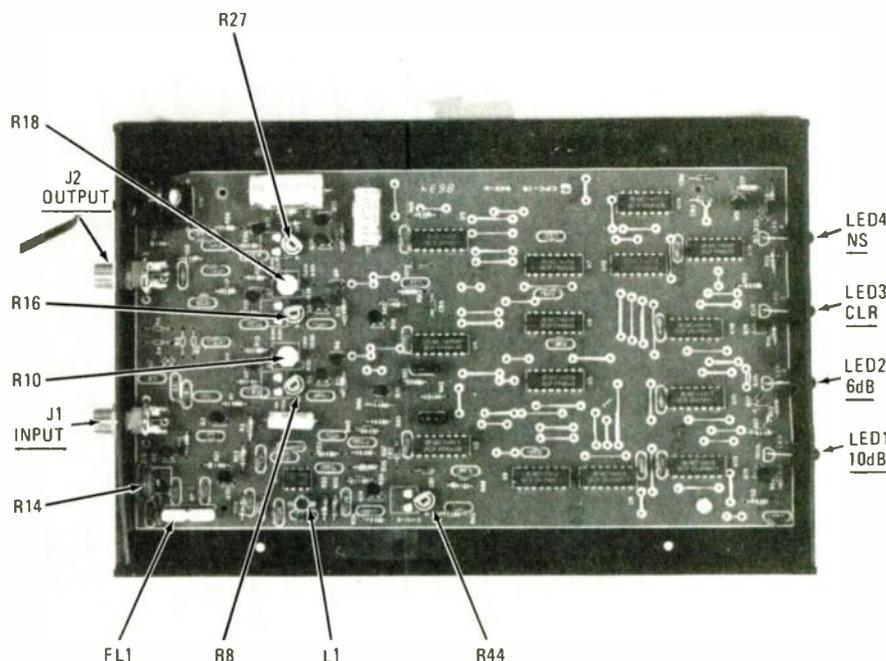
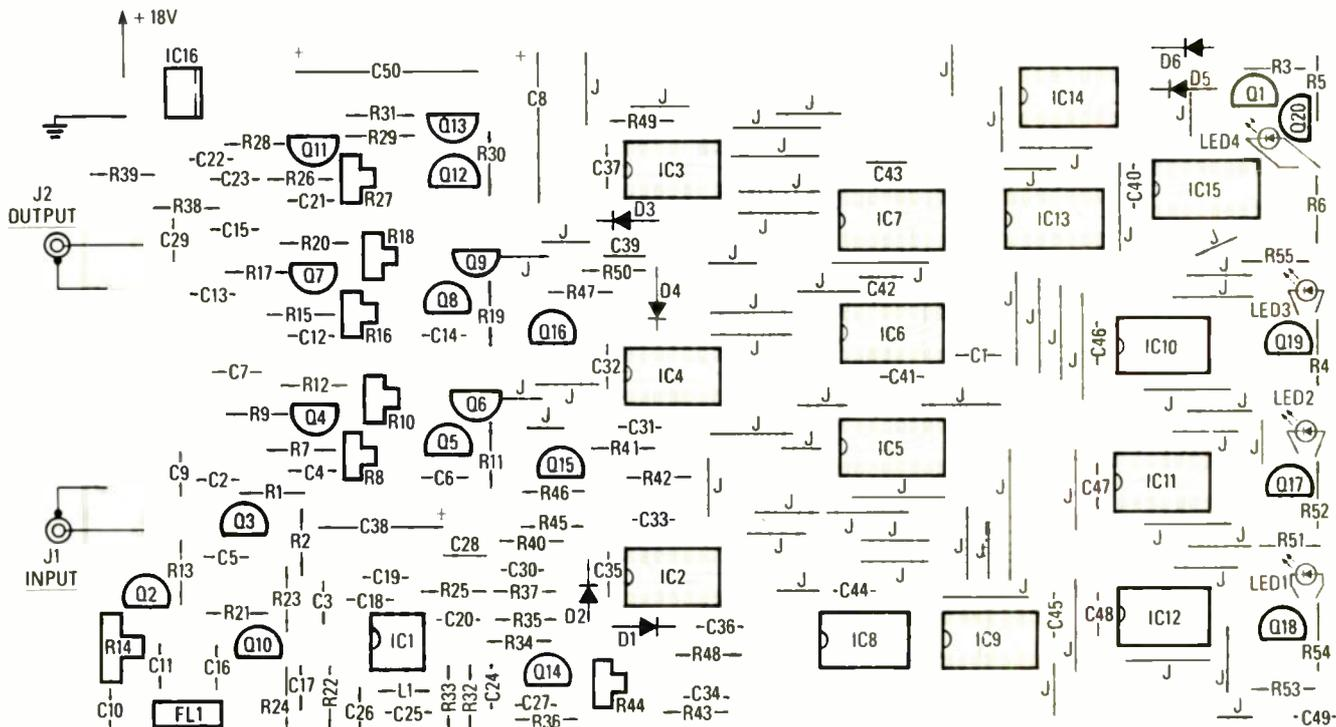
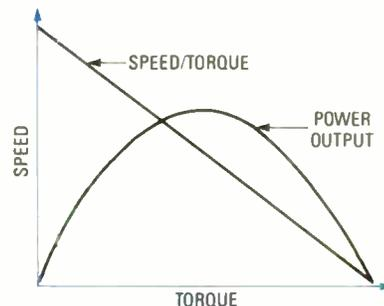

FIG. 5—THE AUTHOR'S PROTOTYPE is shown here. The missing components were eliminated in the final design.
FIG. 6—IF YOU CHOOSE TO BUILD an experimental descrambler, a PC pattern is provided in PC Service. Use this guide when mounting parts on the board.
FIG. 3—MAXIMUM POWER is delivered at half speed and half torque, as indicated by the power-output curve.
FIG.3—DESCRAMBLING TRI-MODE. All fixed resistors are 1/4-watt, 5% units. Capacitor C25 is an NPO type, capacitors C31 and C33 are mica units, and all polarized capacitors are electrolytics; all other capacitors are ceramic discs.
A photograph of the author's prototype is shown in Fig. 5. For those of you who want to experiment with the circuit, we have provided a foil pattern in PC Service. The corresponding parts-placement diagram is provided in Fig. 6.
If the motor is delivering no torque (no-load) or is not moving (stall), the motor's power output is zero. Maximum power is produced at half maximum speed and half maximum torque. Therefore, if we superimposed the power output of our motor on the speed-torque curve, we would get a parabola with maximum power at half speed and half torque. See Fig. 3.
**Part 2** IN THE FIRST PART OF this article we showed the complete set of schematic diagrams (in Fig. 3–Fig. 6) while we discussed the decoder's theory of operation. However, due to a printing error, a line connecting R13, R14, and pin 7 of IC4 was deleted from Fig. 3, the decoder stage schematic. After you go back to your January issue and draw the line in, you'll be ready to start building. But before purchasing any parts, read the section on interfacing below; you may not need the board-mounted demodulator and its associated components, depending on how you interface the decoder with your TV or VCR.